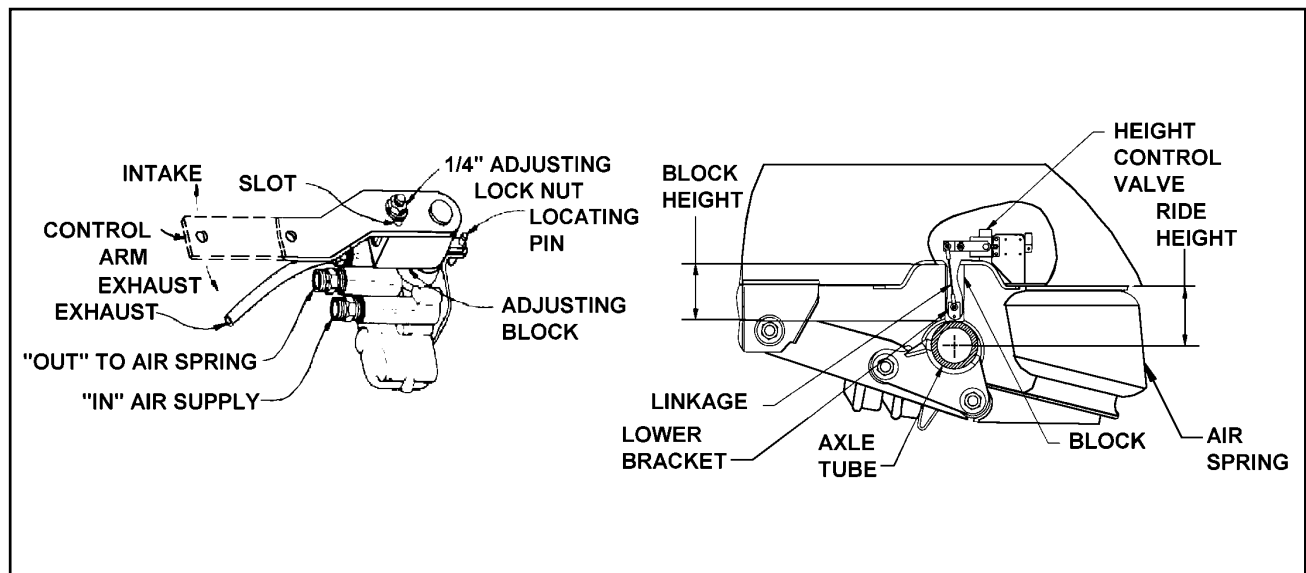

Figure 4-6 Air Ride Height Adjustment
- 4-6.3 Air Ride Height Adjustment. (See Figure 4-6 for parts identification).**
- Disconnect linkage at the control arm and raise control arm to the "up" position, raising the trailer until a block can be placed between axle tube and undercarriage frame (See Figure 4-6).
- f. Loosen the 1/4" adjusting lock nut located on the adjusting block, allowing the control arm to move approximately 1 inch. Move the adjusting block until holes align, then insert locating pin. (See Figure 4-6).